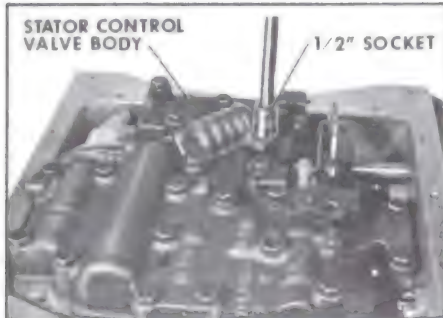

Figure 5-115
6. Remove seven (7) bolts retaining stator control valve body to transmission case using a 1/2" socket. Remove stator control valve body. See Figure 5-115.